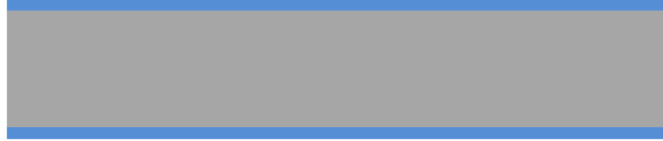

Figure 1 Bare oxidized silicon substrate.
- 1) Begin with 500 nm oxidized layer, low resistivity (1-10 ohm-cm), <100> orientation, P-type (Boron doped), silicon substrate (50 mm X 25 mm X 0.5 mm) (Figure 1).